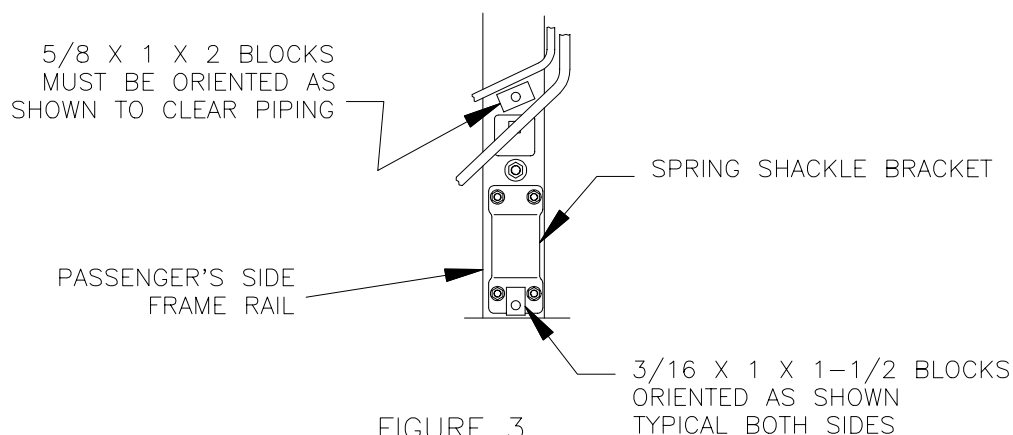

FIGURE 3
NOTE: (2) 5/8" THICK BLOCKS MUST BE ORIENTED AS SHOWN IN FIGURE 3 TO ENSURE THAT BLOCKS DO NOT PINCH TUBING WHEN TIGHTENING BOLT.